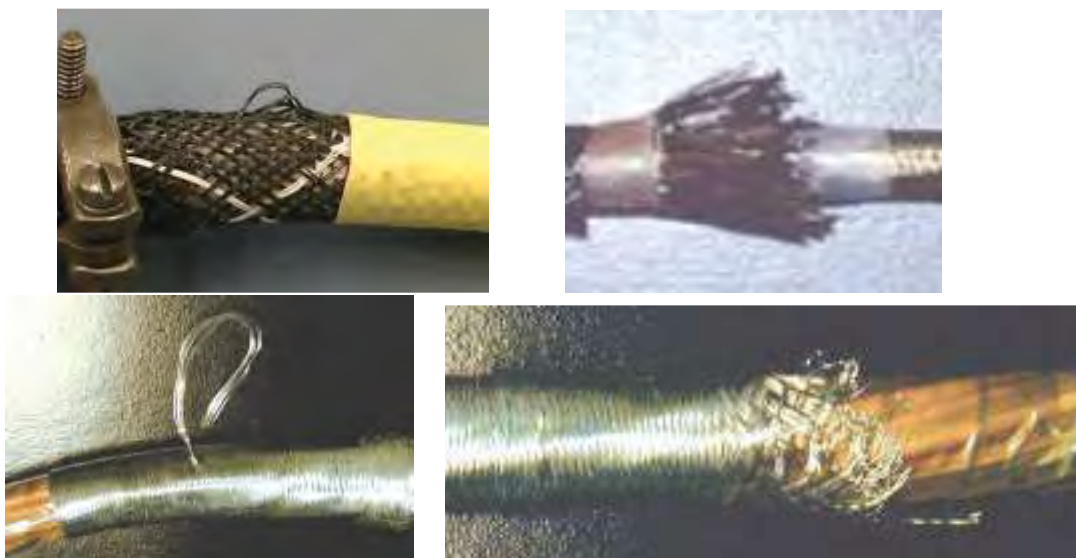

Figure 7
- (1) Cut, ripped, frayed, or torn as shown in Figure 7.